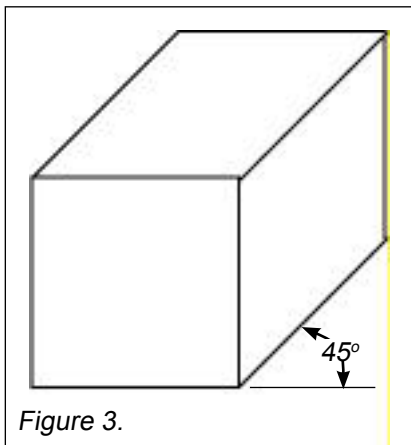

Figure 3.
When planning pattern developments, it is necessary to plan for a bend allowance. The bend allowance is the material that will be stretched when the fold is made (Figure 3). The material allowed for the corners is called the bend allowance. Bend allowance is calculated with variables for the smallest radius of the bend (R), the thickness of the metal (T), and the angle of the bend (B).
In Figure 3. given $R = 5/16"$; $T = .040$; $B = 135$ degrees
Oblique Pictorials - There are two types of oblique pictorials: cabinet and cavalier. Cabinet oblique pictorial views (Figure 3.) are commonly used to quickly sketch ideas. The height and length axes are at a 90° angle and the width axis is usually at 45° to horizontal. Height and length dimensions are actual size but the width dimension is divided in half.